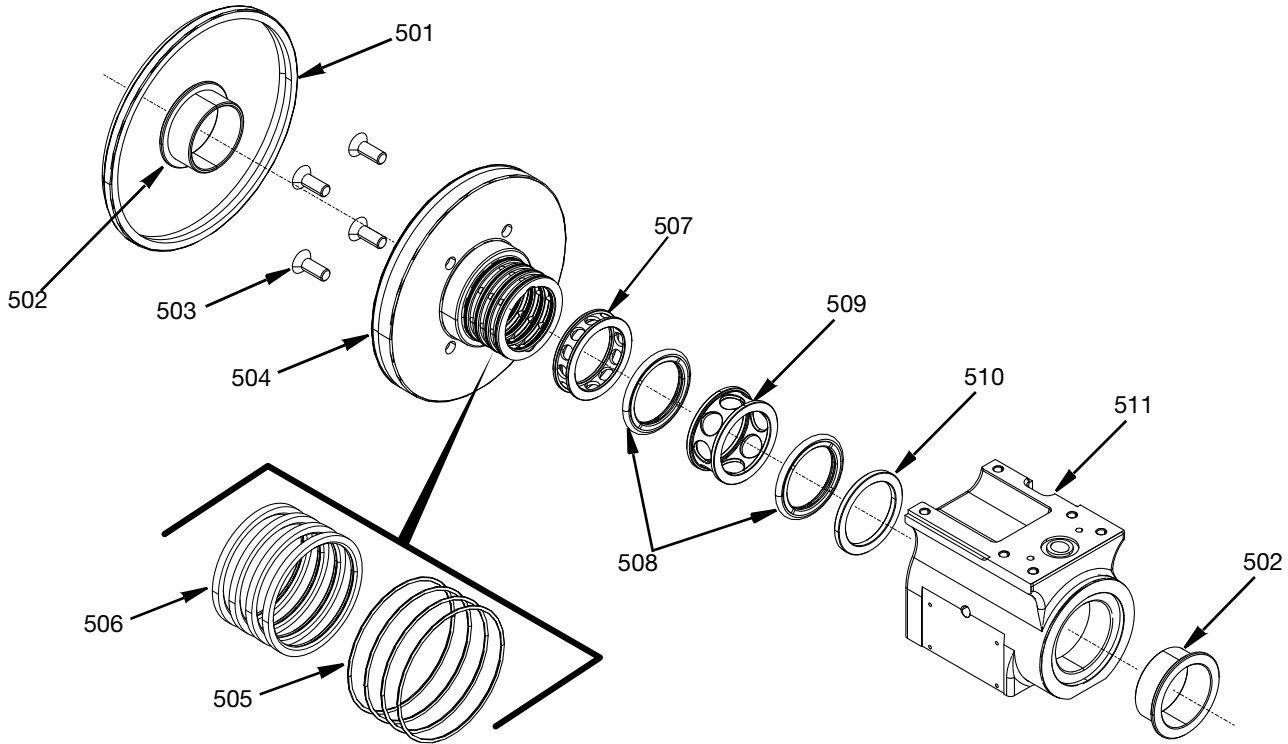

FIG. 20
1. Dust seal ring (501) can be removed from the air distribution ring bearing (504)
2. Remove flange bearings (502) and discard.
3. Remove M6 flathead screws (503) with a hex key wrench and remove the air distribution ring bearing (504).
4. Remove the four O-rings (505) and four air seals (506) from the air distribution ring bearing (504) and discard.
5. Tap the internal components (507-510) out of the swivel housing assembly (511). It is recommended to use seal installation /removal tool 17V972 and a soft face mallet to tap the internal components from the swivel housing.
6. Discard the rotary seals (508). See FIG. 20 on page 20.
NOTE: For general sequence of swivel housing assembly refer to FIG. 20.